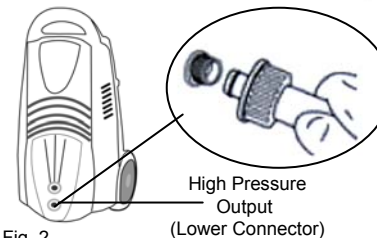

Fig. 2
1. While facing the front of the unit attach the high pressure hose to the high pressure output connector on the front side of the unit. Twist on securely to avoid leakage. (Fig. 2)